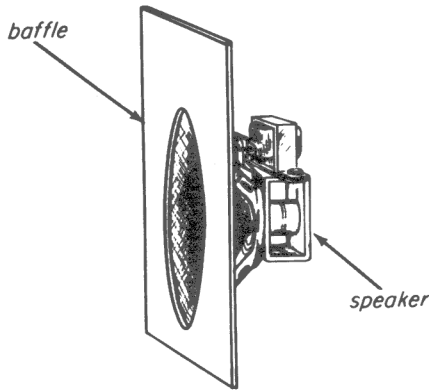

Fig. 35-7
Step 4. Hold the baffle in place momentarily against the front of the speaker as shown in Fig. 35-7. Note that the bass response improves while the baffle is in place.